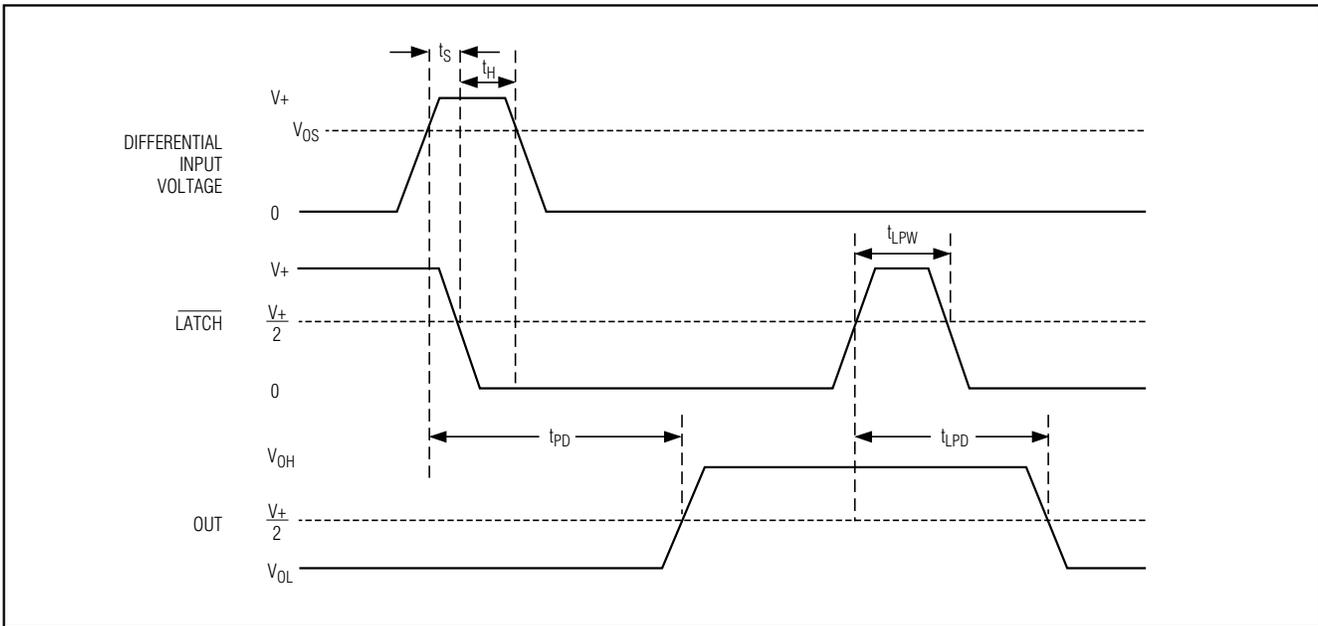

Figure 2. MAX941 Timing Diagram with Latch Operator
**Note 8:** Parameter is guaranteed by design and specified with VOD = 5mV and CLOAD = 15pF in parallel with 400μA of sink or source current. VOS is added to the overdrive voltage for low values of overdrive (see Figure 2).
**Note 12:** Applies to the MAX941 only. Comparator is active with  $\overline{\text{LATCH}}$  pin driven high and is latched with  $\overline{\text{LATCH}}$  pin driven low (see Figure 2).
The MAX941 includes an internal latch that allows storage of comparison results. The  $\overline{\text{LATCH}}$  pin has a high input impedance. If  $\overline{\text{LATCH}}$  is high, the latch is transparent (i.e., the comparator operates as though the latch is not present). The comparator's output state is stored when  $\overline{\text{LATCH}}$  is pulled low. All timing constraints must be met when using the latch function (Figure 2).